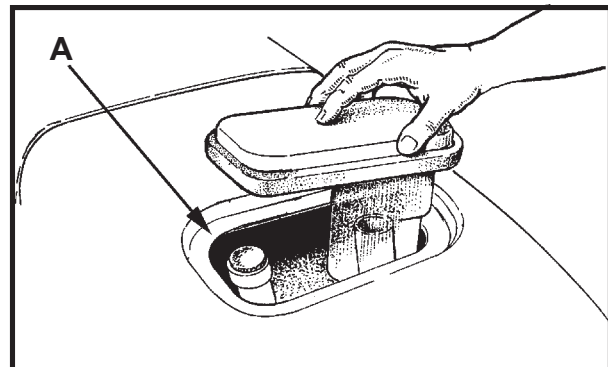

Figure 2
3. Make sure the recovery tank lid is on correctly. See figure 2.
4. Make sure the Screen filter over the vacuum motor is clean and in position. See figure 2 (a)
CAUTION: Make sure water or solution does not enter the opening for the vacuum motor. See figure 2.